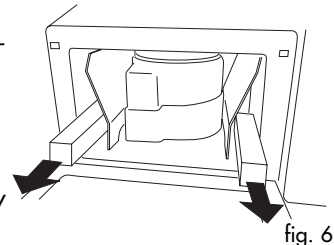

fig. 6
- Remove the two pieces of polystyrene at the sides of the cavity (fig. 6).